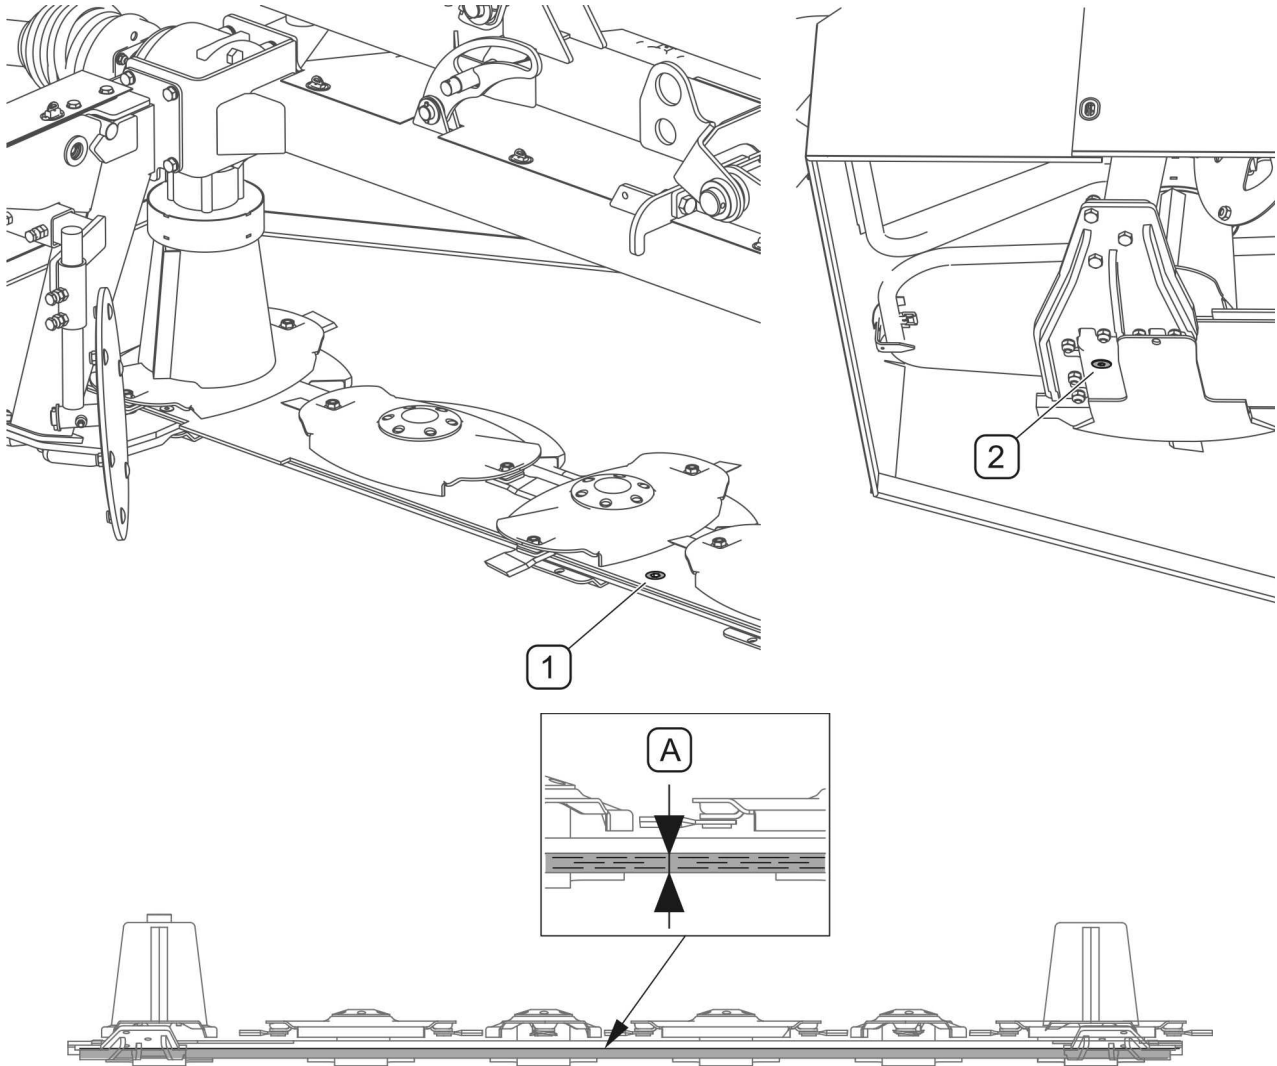

FIG. 5.3A Check oil level in cutterbar
(1)- inlet cap; (2)- drain plug; (A)- correct oil level 5 ÷ 7 mm from the cutterbar bottom
Correct oil level (A) with cutterbar in horizontal position is 5 ÷ 7 mm from the cutterbar bottom. To check oil level remove inlet cap (1) located between the third and fourth disk (FIG. 5.3A). When oil is cold wait approximately 15 minutes before checking the oil level.
In order to change oil in cutterbar (FIG. 5.3A):